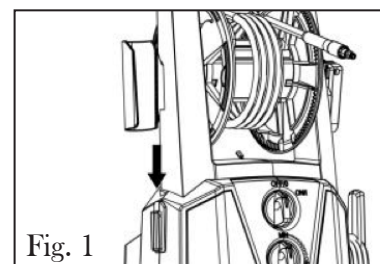

Fig. 1
1. Slide the gun holder into position and snap it in place (Fig. 1).